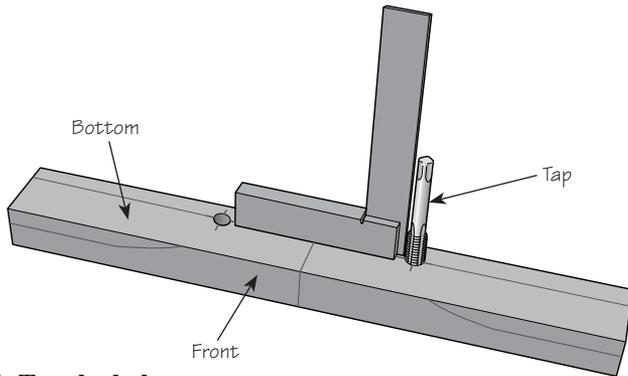

**Figure 3: Mark the holes.**
4. Draw a line along the bottom of the blank 1" from the **front** edge. (A marking gauge is useful for this task.) Measuring out from the center line, first make a mark  $1\frac{3}{16}$ " to one side of the center line. Use a center punch or scratch awl to dimple the location. Use the blade (with screw posts installed) to mark the other hole location by placing the point of one screw post on the first hole location and positioning the other screw post on the line drawn parallel to the front edge. Tap the blade with a small hammer or block of wood to mark the second hole location. You will now have a mark on each side of the center line, as shown in **Figure 3**. The holes must be marked and drilled as accurately as possible; otherwise, you will not be able to install the blade.